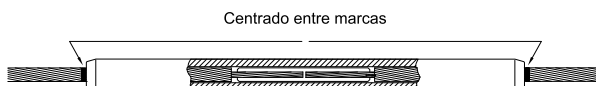

Fig. 3
- 5 Deslizar el manguito de aluminio sobre el manguito de acero ya comprimido eliminando las retenciones sobre el conductor a medida que no se van necesitando hasta situarlo centrado con respecto a las marcas previamente realizadas sobre el conductor en el apartado 2º lo que nos permite verificar que el manguito de acero se encuentra situado en el centro del manguito de aluminio. **(Fig. 3)**
- 5 Slide the aluminium sleeve on the steel sleeve that has already been compressed, removing the retainer clips from the conductor as they become unnecessary, until it is centred with respect to the reference markings previously made on the conductor in Section 2. This will allow you to make sure that the steel sleeve is in the centre of the aluminium sleeve. **(Fig. 3)**